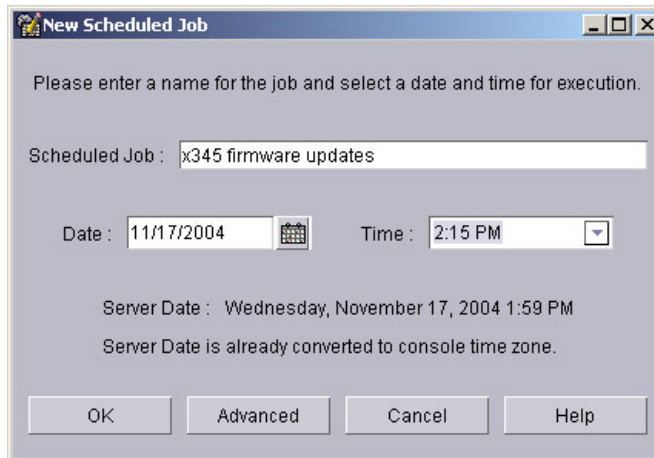

Figure 7-20 Job details
20. Type in an appropriate name for your scheduled job. We have used x345 firmware updates, and select a time for the job to execute. See Figure 7-20.